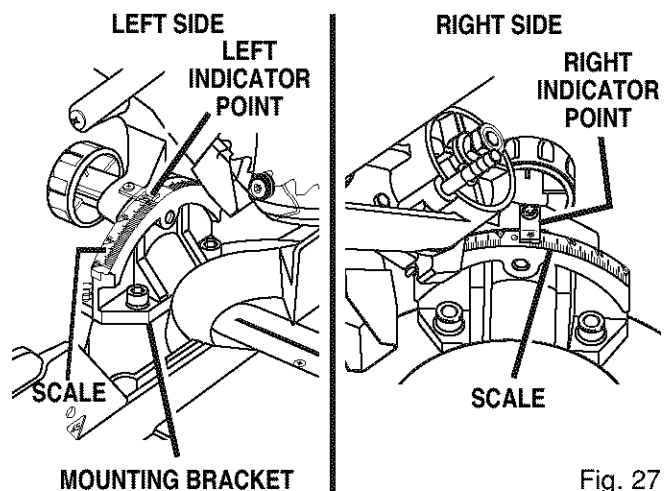

Fig. 27
See Figures 27 and 28.
- For your convenience there is a double scale located on the mounting bracket. *See Figure 27.* If one side becomes difficult to read as you move the saw arm to the left, simply refer to the other side. Align the indicator point for the side you choose with the desired angle.